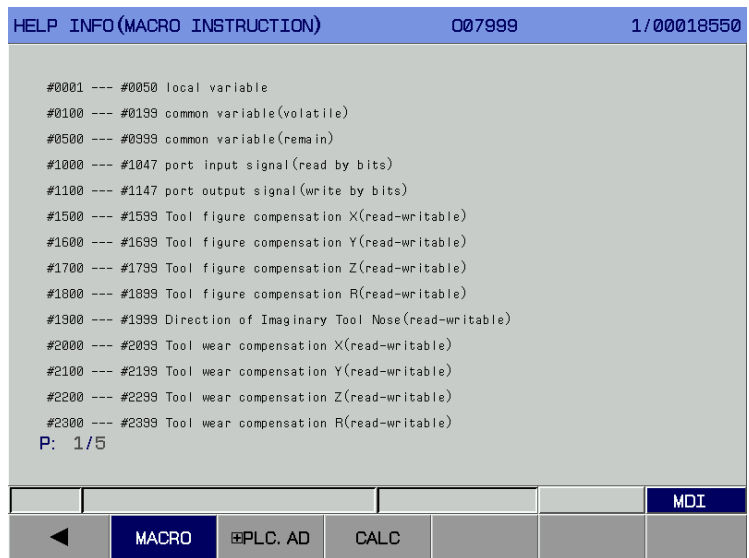

Fig. 3-9-7
6. For the macro command interface, press the [Macro command] soft key on the <Help> interface to enter the help information (macro list) interface, as shown in Fig. 3-9-7.